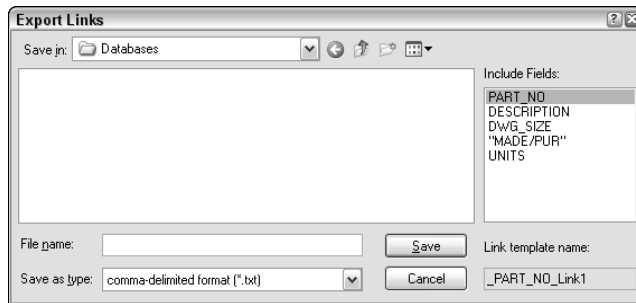

Figure 20-12: The Export Links dialog box.
2. At the `Select objects:` prompt, choose the objects whose links you want to export. When you complete object selection, AutoCAD opens the Export Links dialog box, shown in Figure 20-12.